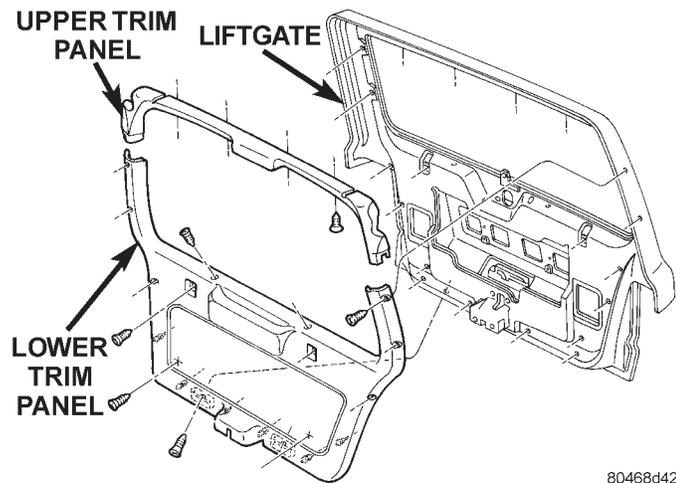

Fig. 9 Liftgate Trim Panel Remove/Install
(1) Disconnect and isolate the battery negative cable.
(2) Open the liftgate.
(3) Remove the screws that secure the liftgate lower trim panel to the liftgate inner panel (Fig. 9).